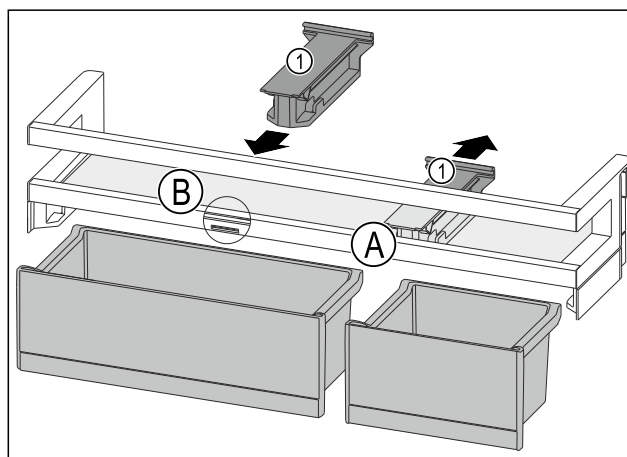

Fig. 224
- ▶ Take off the holding part Fig. 224 (1) in position Fig. 224 (A) backwards.
- ▶ Insert the holding part Fig. 224 (1) in position Fig. 224 (B).